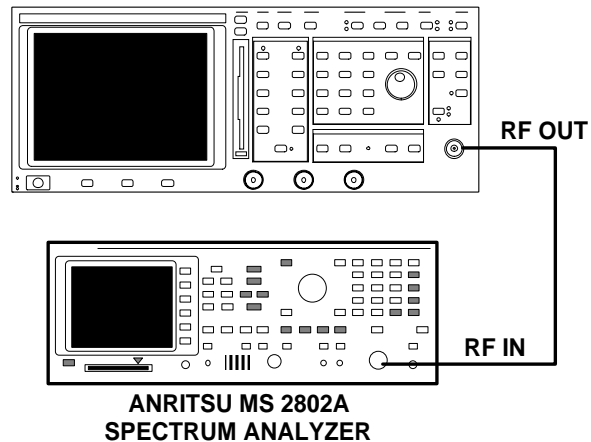

Figure 5-7. Source Output Signal Purity Test Setup
Step 1. Set up the equipment as shown in Figure 5-7, and turn the equipment on.